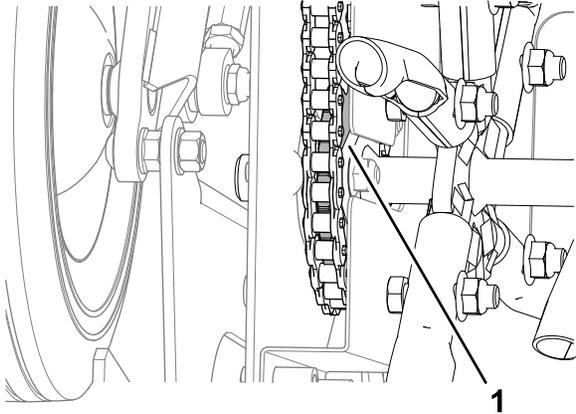

Figure 65
- 2. Ensure that the chains are engaged in the rear tine-drive sprockets (Figure 65).